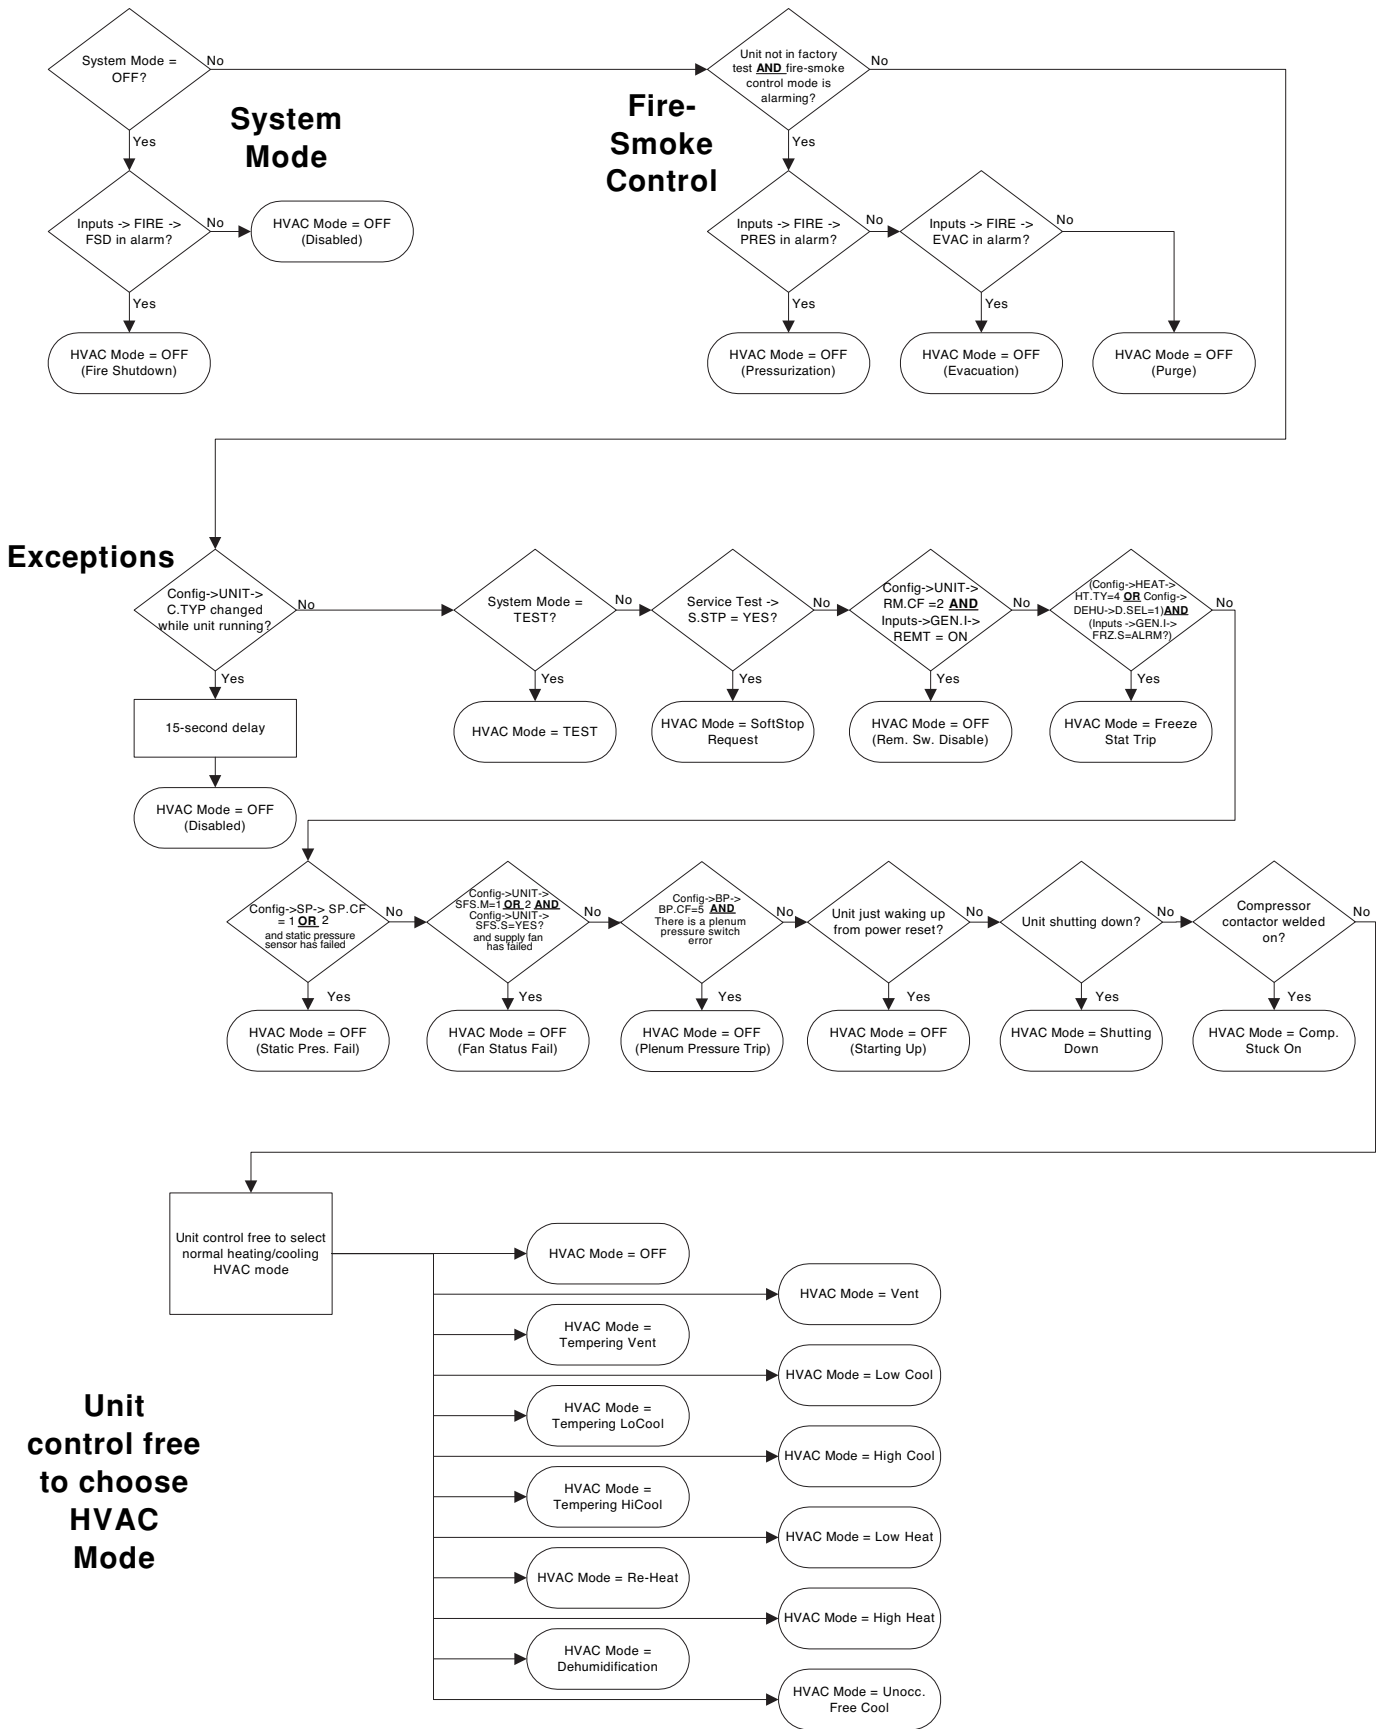

Fig. 4 — Mode Selection
**HVAC MODES (*Operating Mode*→*HVAC*)** — The HVAC mode is dependent on the system mode to allow it to further determine the operational state of the rooftop unit. The actual determination of an HVAC mode is based on a hierarchal decision making process whereby certain overrides may interfere with normal temperature/humidity control. The decision making process that determines the HVAC mode is shown in Fig. 4 and Appendix E.